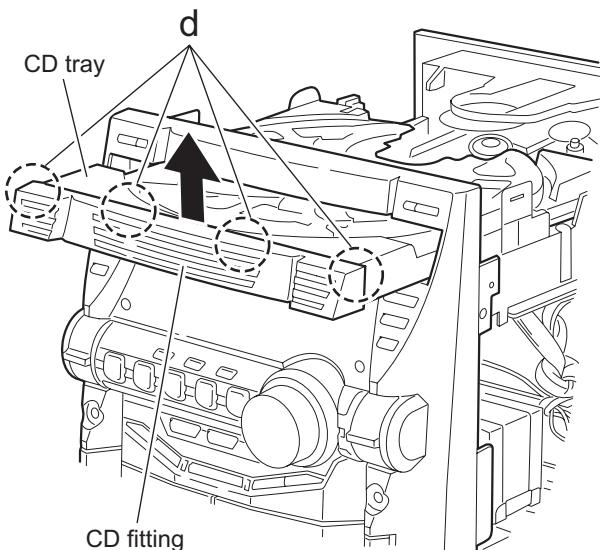

Fig.8
3.1.3 Removing the CD fitting (See Fig.8 to 10)